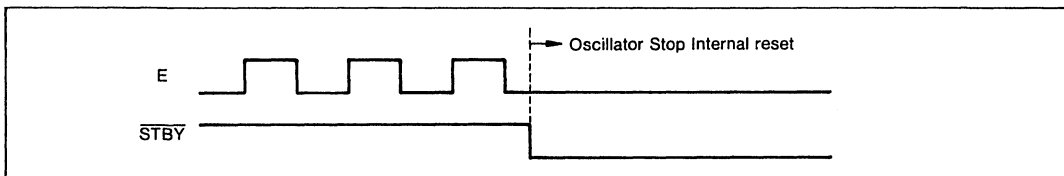

Figure III-20. E During Standby
**Answer:** No. The CPU enters standby mode regardless of the current instruction; the CPU goes into reset condition and the oscillator stops with  $\overline{\text{STBY}}$  low (figure III-20).